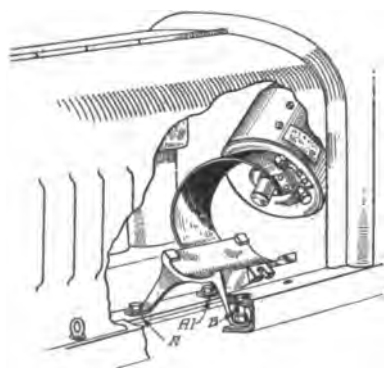

Fig. 376. Motor Cradle Assembly ]
**Mounting the Genemotor.** Assemble the motor cradle in place, Fig. 376. Place a  $\frac{1}{8}$ -inch spacing washer under the leg nearest to the transmission cover and insert the special bolt *A1* with the lock washer from the underside of the car but leave it slightly loose.